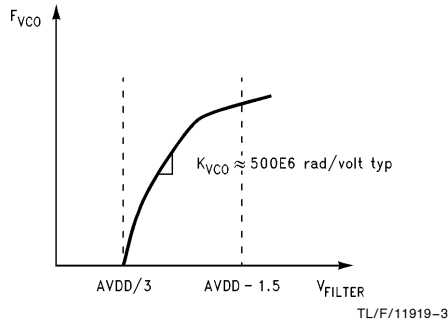

FIGURE 3-1. Linear Operating Range
- Figure 3-1 Linear Operating Range
Normal, or linear VCO operation will place the input voltage range from $AVDD/3$ (the lowest frequency response) to approximately $AVDD - 1.5V$ (the highest frequency response). The linear operating range is illustrated in *Figure 3-1* with VCO output frequency (F_{VCO}) expressed as a voltage filter input (V_{FILTER}).